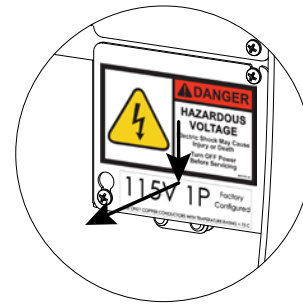

Figure 26. Junction Box Cover
3. Remove the junction box cover. (Figure 26)